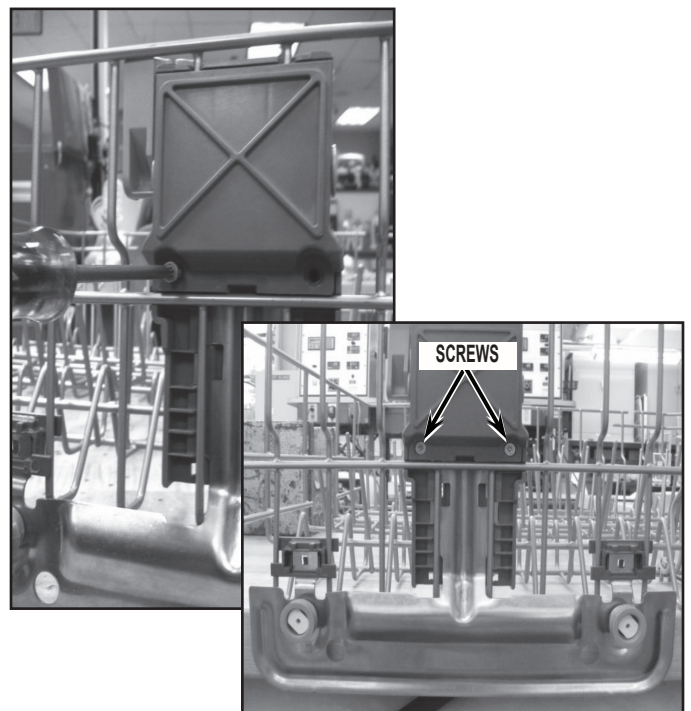

FIGURE 10
12. Drive the two (2) screws into the adjuster body. This will complete the assembly of the rack adjuster. See *Figure 10*.